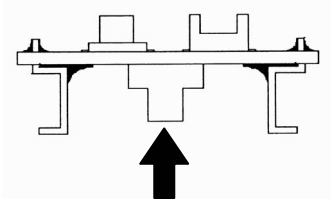

Figure 2-6-1. TC Projection Diagram
(1) Apply cream solder to the foot pattern for mounting the IC on the target system.
(2) TC has a cylindrical projection in the center of the underside (Figure 2-6-1). Apply a two-component hardening type epoxy adhesive agent (a type that hardens in 15 to 30 minutes) sparingly to the underside of the projection to temporarily secure the connector at the specified location on the target system. Make sure that the position of pin 1 of the connector (where the corner is cut) matches the position of pin 1 on the target board.
(3) TC mounting conditions